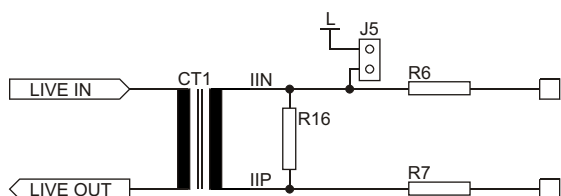

Figure 5: Current input configuration
**CURRENT SENSOR INPUT RESISTORS FIGURE 5 (USING A CURRENT TRANSFORMER)**